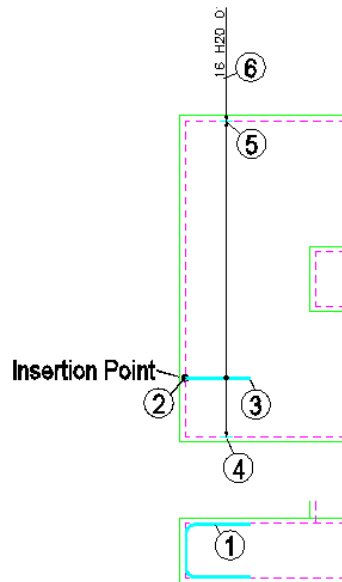

Figure 4.7.15:1 Single Indicator Range Placing Order
- Pick the points as indicated on figure 4.7.15:1 below starting with point 2, to place the Bar View and the Range Line. The range offsets should be set to 0.0. Set the Centre Spacing at 200 and answer Yes to placing the Bar Label;